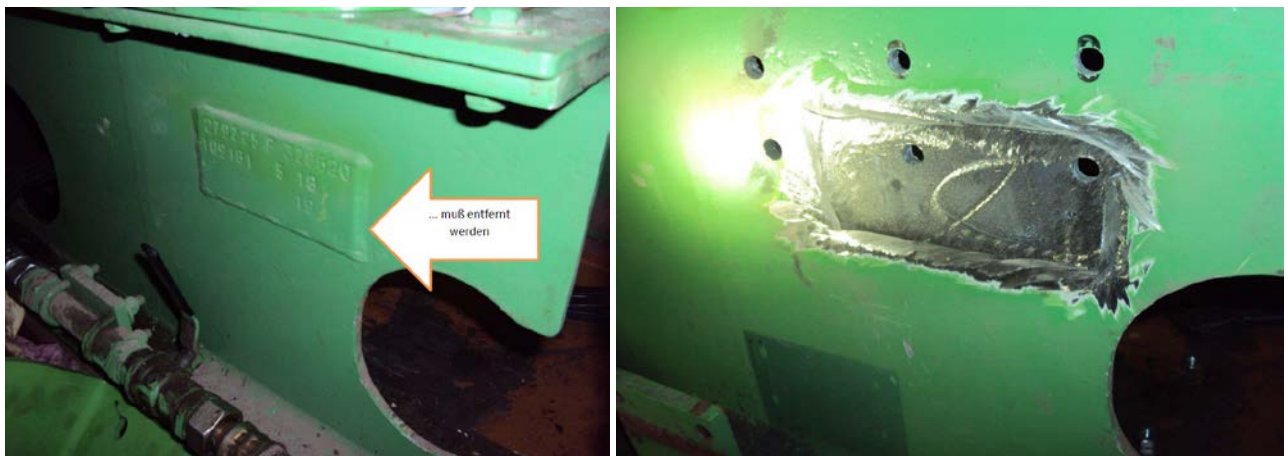

Figure 10: Removing the part identification plate on the module frame
6. Drill the required holes (see Figure 10, right)
As can be seen in Figure 9, the ECW pump bracket may have to be positioned at exactly the place where the module frame part identification plate is situated. In this case, the plate must be removed (see Figure 10).